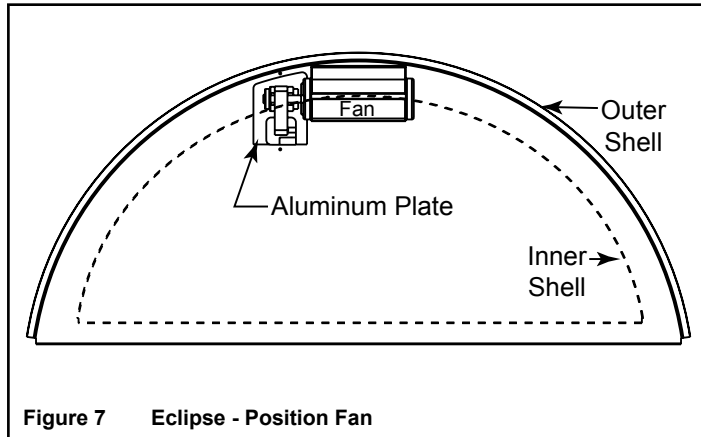

Figure 7 Eclipse - Position Fan
- Make sure fan motor is centered over aluminum plate on bottom pan. See Figures 7 and 9.